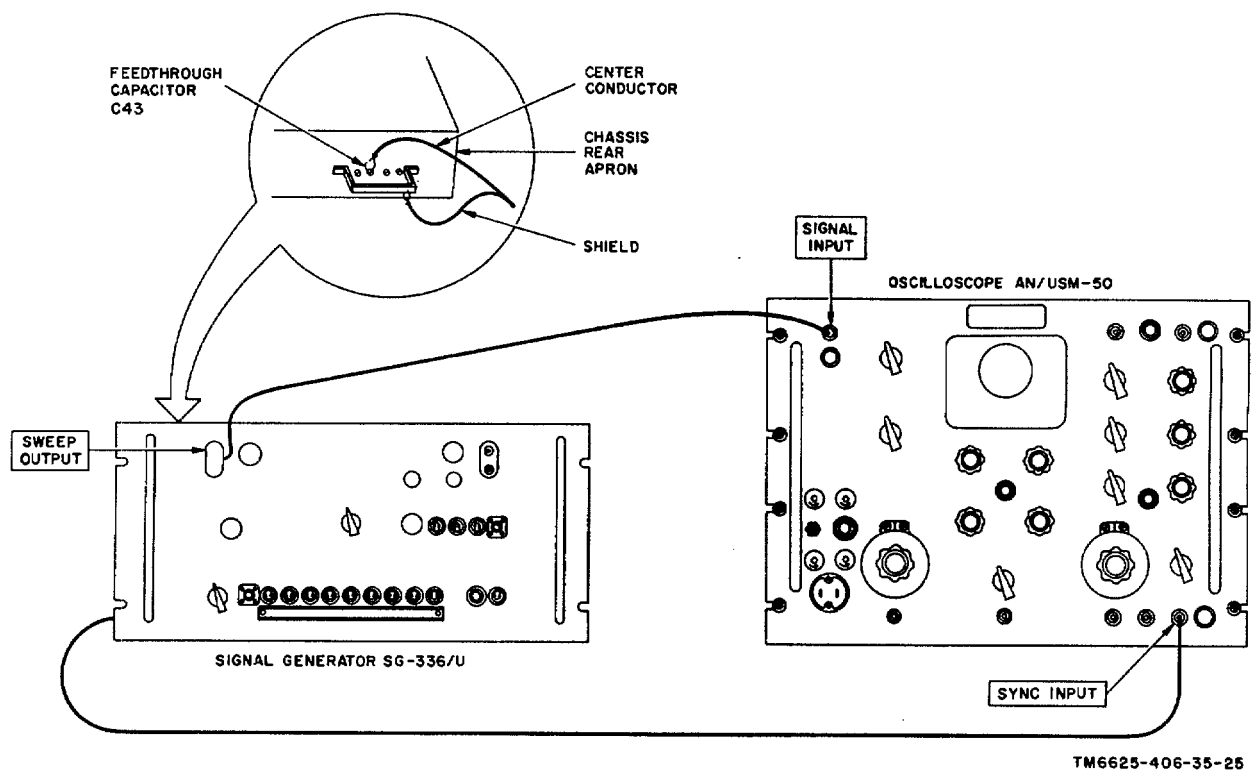

Figure 20. Sweep output voltage test connections.
*b. Test Connections and Conditions.* Connect the equipment as shown in figure 20.